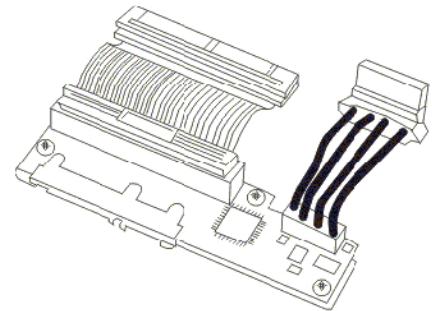
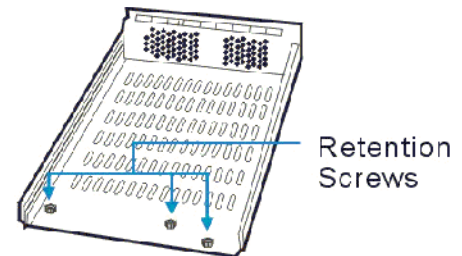

Figure 6: SATA-to-PATA MUX Kit
Figure 7: Retention Screw Locations in Empty Drive Tray
Step 2: The SATA-to-PATA MUX kit is shown in *Figure 6*. It is mounted on a metal base that has three pre-drilled holes reserved for retention screws. Three corresponding pre-drilled screw holes can be found at the back of the drive tray shown in *Figure 7*.
Step 3: Place the MUX kit at the back of the drive tray. Hold the MUX kit in place and turn the drive tray over. **Align the holes** in the base of the drive tray with the holes in the MUX kit base tray. (See *Figure 7*)